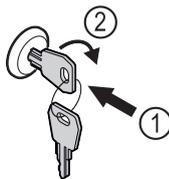

Fig. 184
- ▶ Insert the key. Fig. 184 (1)
- ▶ Turn the key clockwise by 90°. Fig. 184 (2)